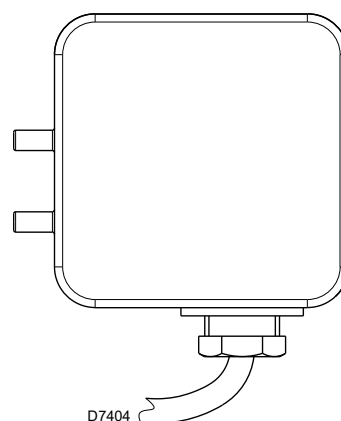

Fig. 26
- Adjust the air pressure switch (Fig. 26) to the start of the scale.
Adjust the air pressure switch (Fig. 26) after performing all other burner adjustments with the air pressure switch set to the start of the scale. With the burner function at the required output, turn the knob slowly in a clockwise direction until burner lockout.